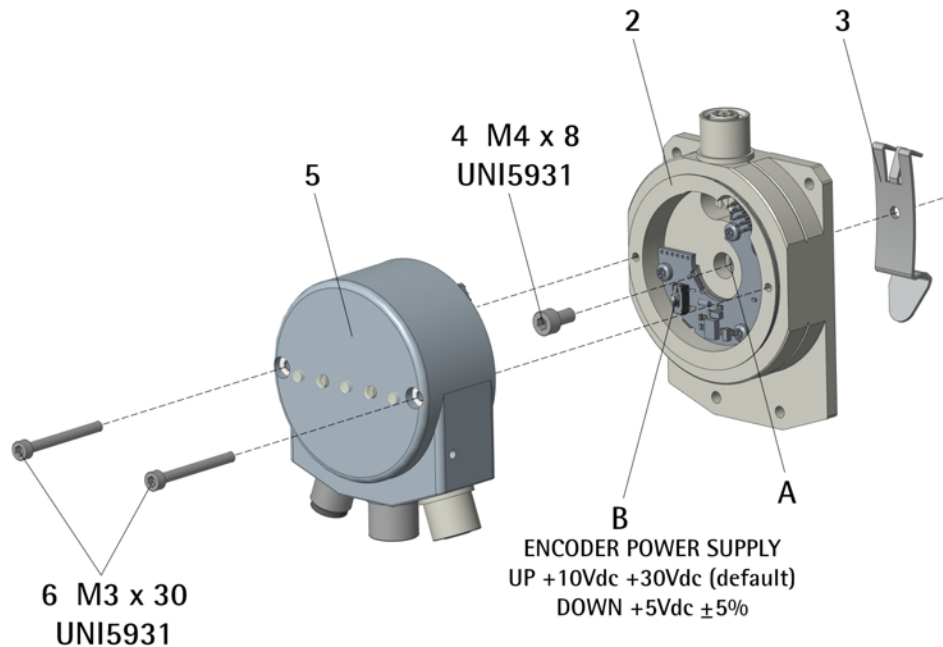

Figure 3 - Installation with DIN TS35 rail clip
3.3 Installation with DIN TS35 rail clip (Figure 3)